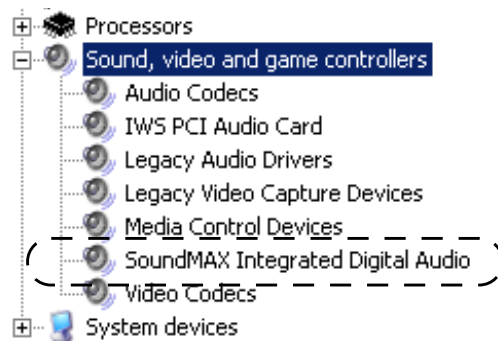

FIGURE 54. Final Check for SoundMAX
12. If the menu is not already open, press the right arrow to open it. You should see the device as listed in Figure 54.